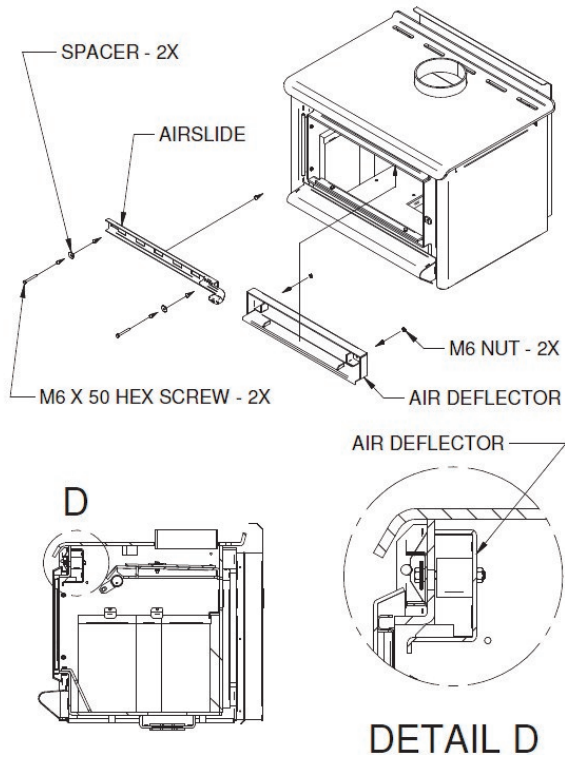

Figure 9. Step four
Step Four (Figure 9):
1. While holding the deflector in correct position ref detail D of Fig 9, refit the new Airslide (983278) to the front of the heater.